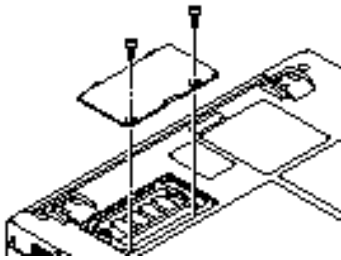

Figure 4-11 Opening the Memory Upgrade Compartment
4. Remove the screws at the front of the memory upgrade module compartment. (See Figure 4-11.)
5. Remove the cover by tilting the front edge up and then pulling forward until the tabs on the cover are free. (See Figure 4-11.)